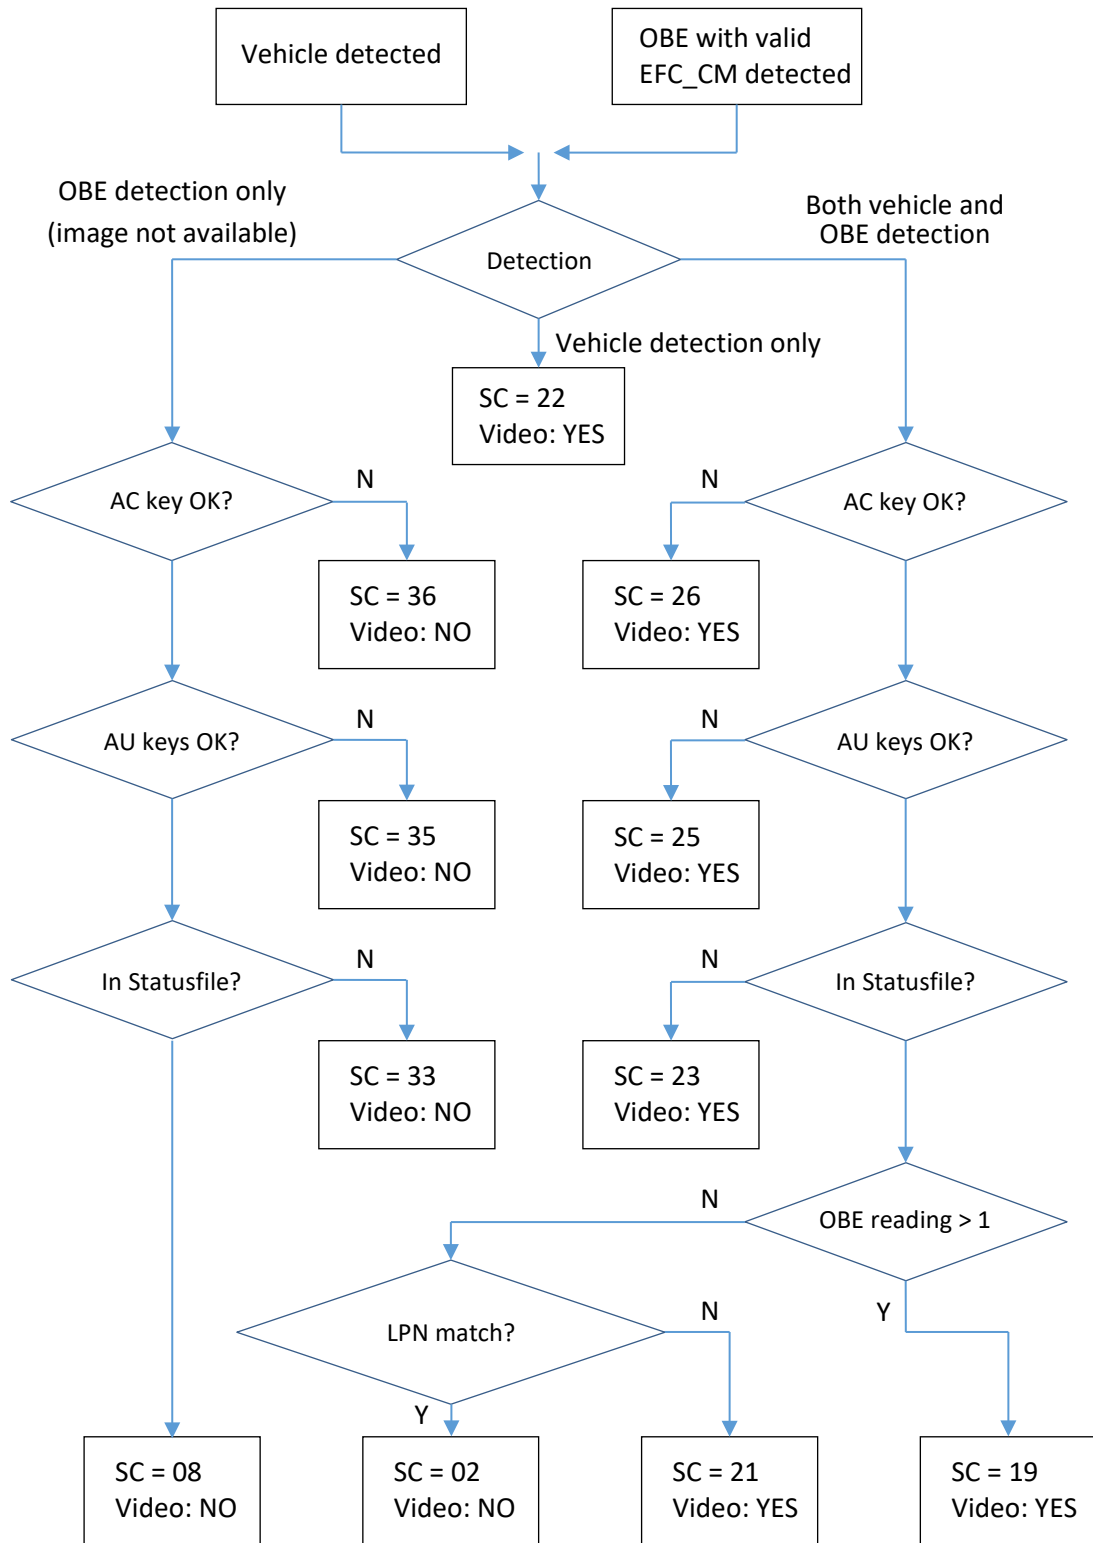

Figure 1. Flow chart of CPE logic
Signal Codes (SC) describe the type of transaction as a result of the processing of the passage in the CPE. The CPE uses the vehicle detection and the processing according to the flow chart in Figure 1. Flow chart of CPE logic.
The diagram in Figure 1 shows the different verifications to be done to determine the signal codes and video enforcement of a passage. CPE Supplier should implement logic in CPE that is consistent with this diagram.